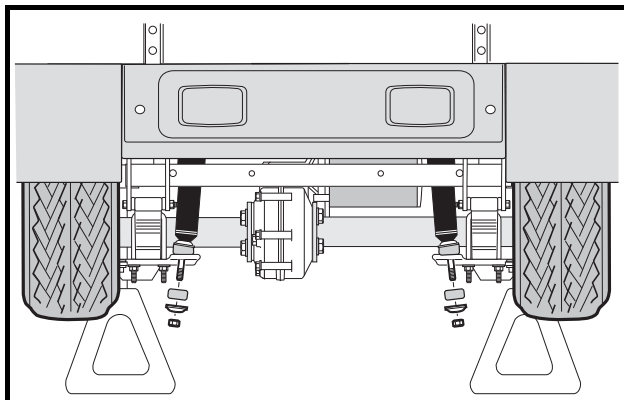
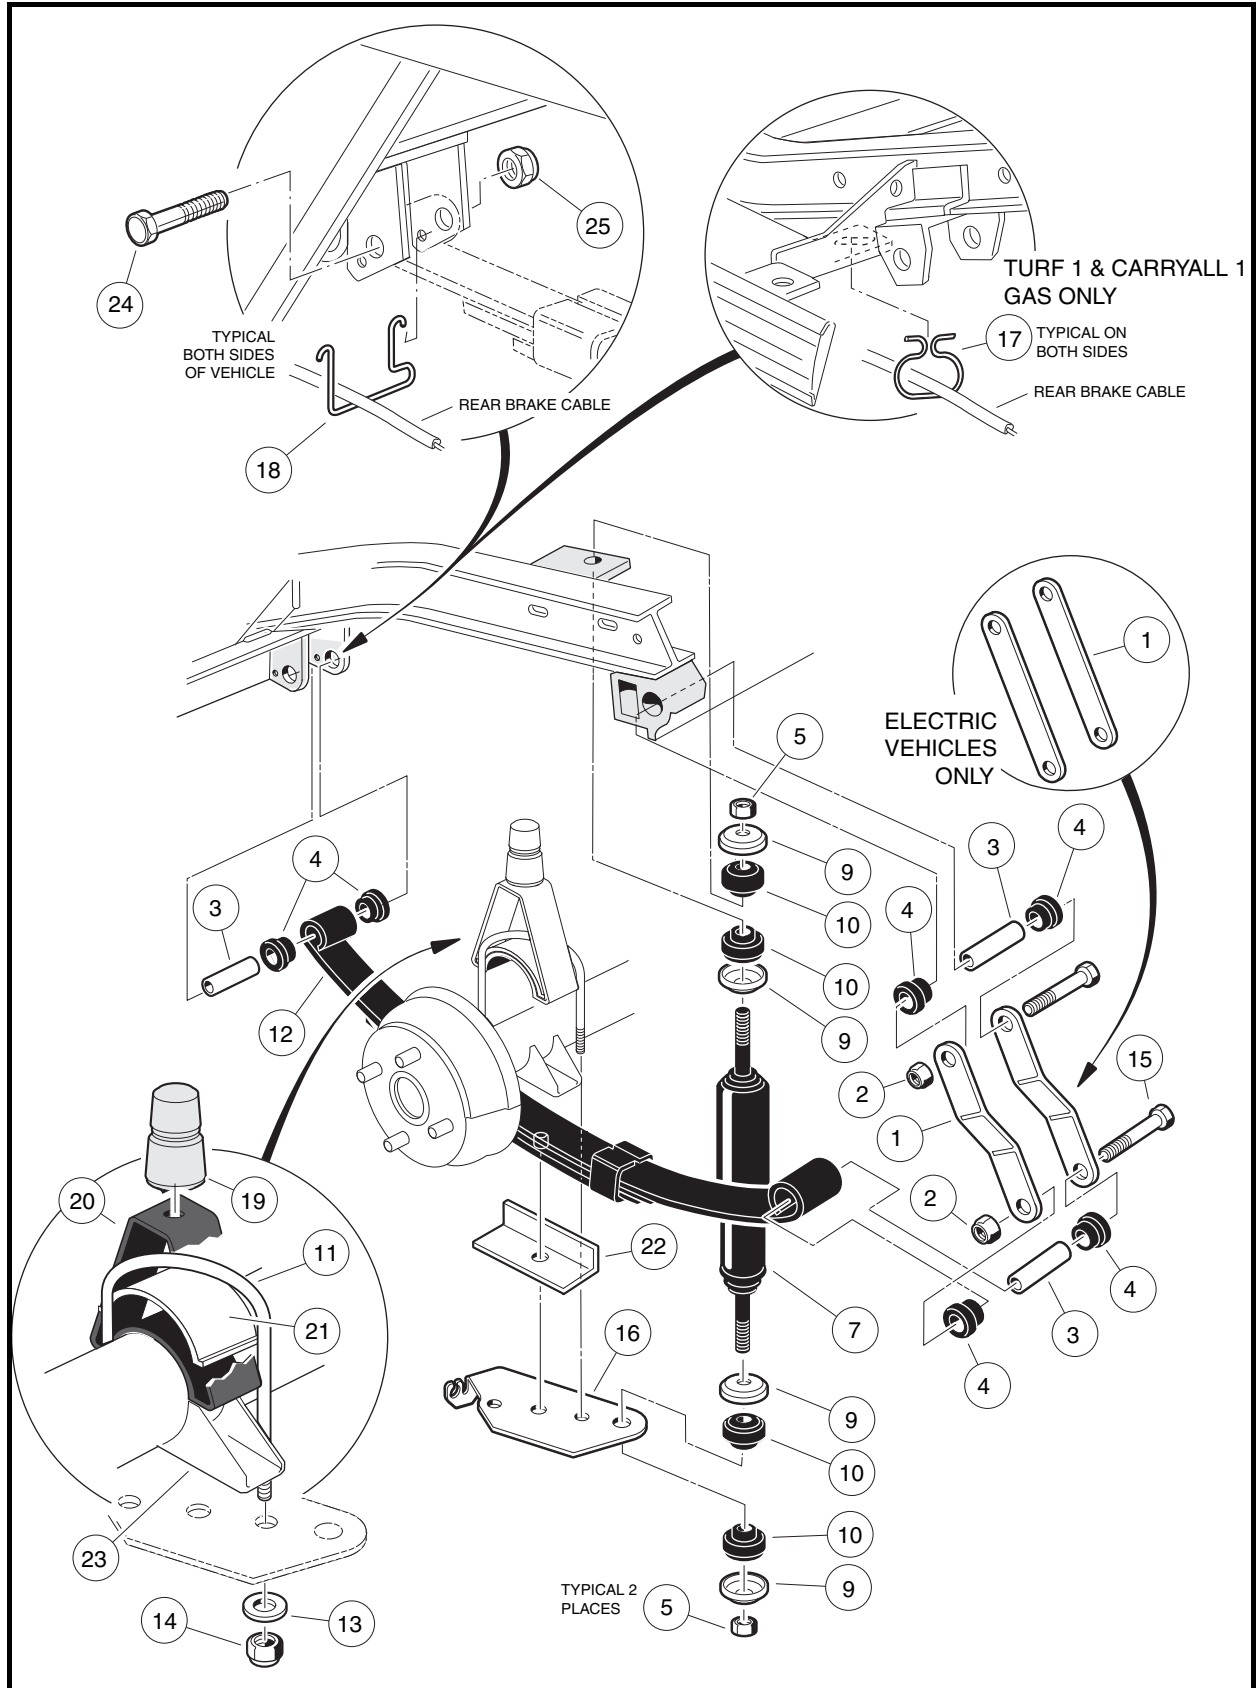
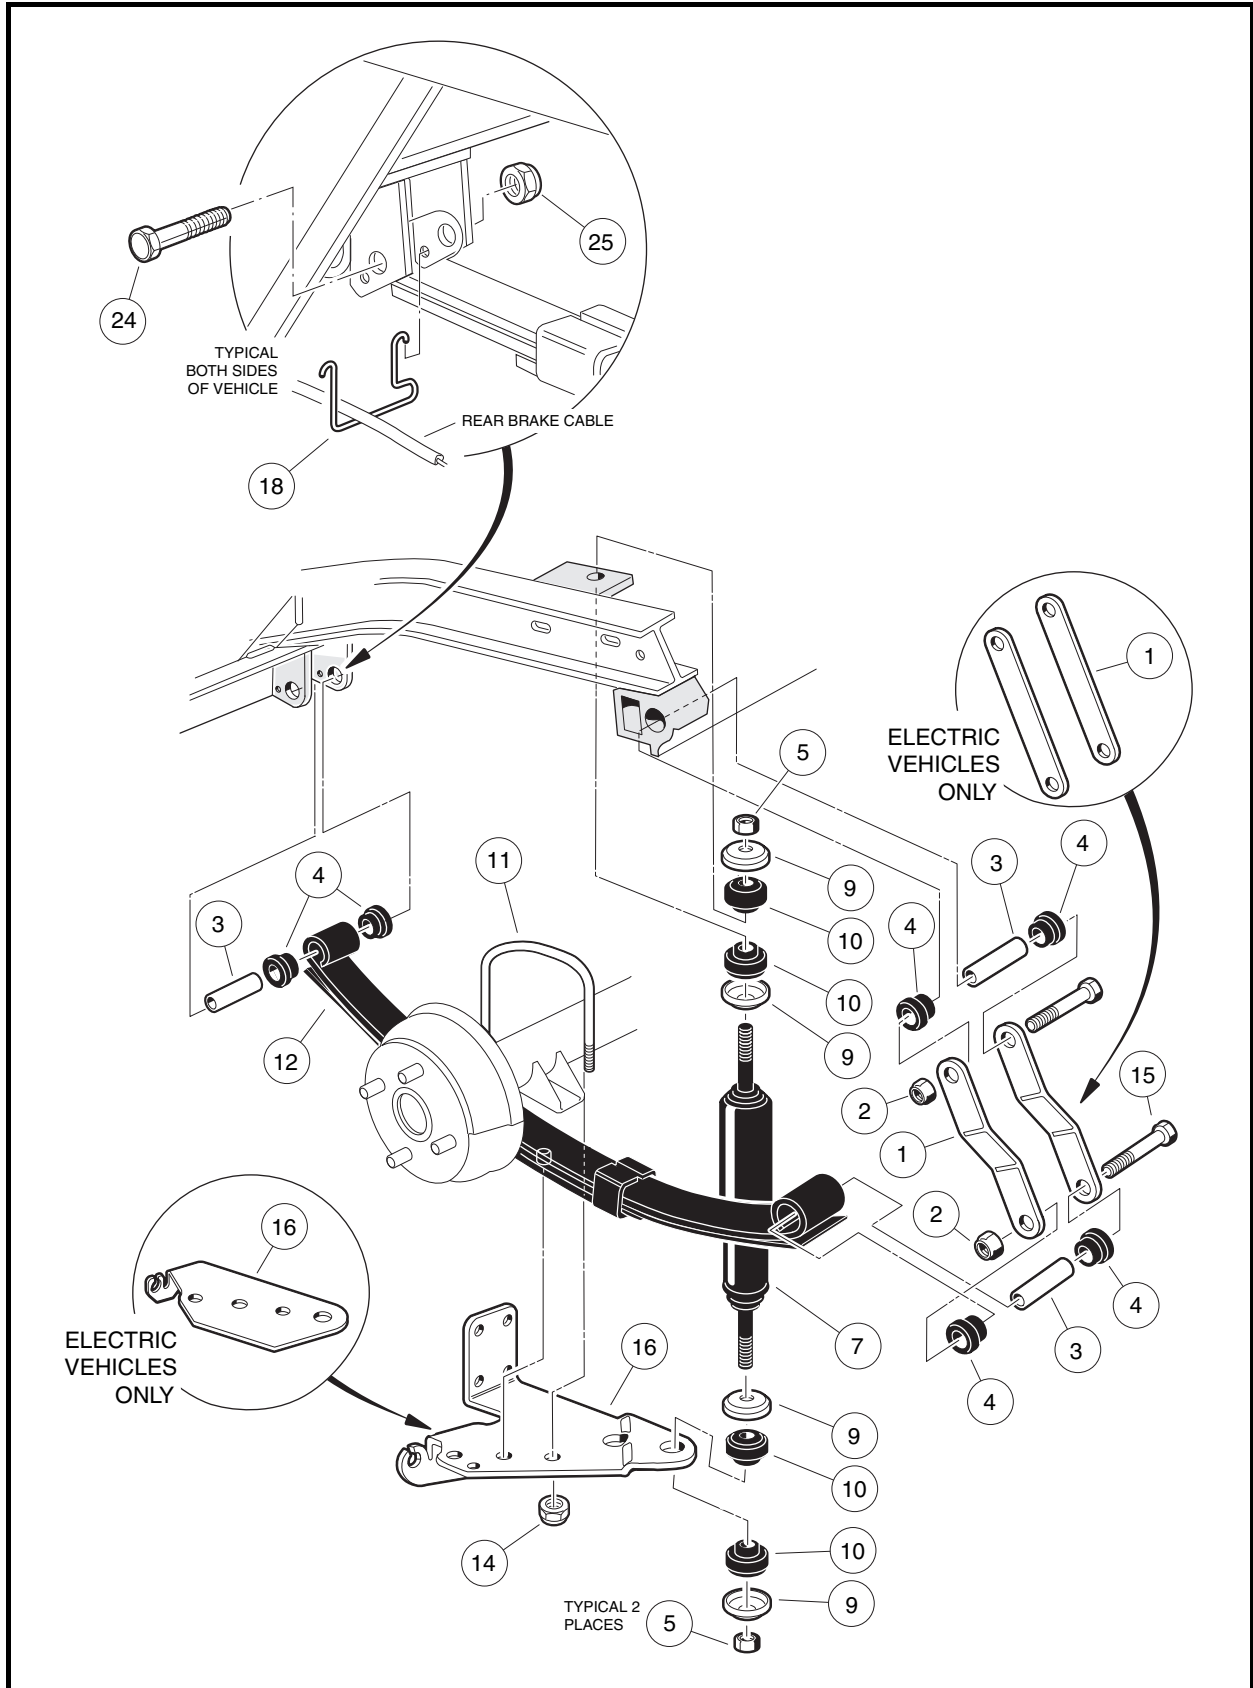

Figure 9-1 Shock Absorber Removal
Figure 9-3 Rear Suspension – Turf 1 and Carryall 1 Vehicles
Figure 9-4 Rear Suspension – All Turf and Carryall Vehicles Except Turf 1 and Carryall 1
1. Check shock absorbers (7) for damage and fluid leakage around the lower housing of the shock absorber body. Replace damaged or leaking shock absorbers (**Figure 9-3, Page 9-4 or Figure 9-4, Page 9-5**).
2. To remove a shock absorber (7), remove the nut (5), cup washer (9), and rubber bushing (10) from the upper shock absorber stem.
3. Remove lower mounting hardware (5, 9 and 10) on shock absorber lower mount (**Figure 9-3, Page 9-4 or Figure 9-4, Page 9-5**). See also **Figure 9-1, Page 9-1**.
2. On the upper shock absorber mount, tighten nut (5) until rubber bushing (10) expands to size of cup washer (9) (**Figure 9-3, Page 9-4 or Figure 9-4, Page 9-5**).
3. On the lower shock absorber mount, install mounting hardware. Tighten the nut (5) until the rubber bushing (10) expands to the same diameter as the cup washer.
NOTE: Turf 1 and Carryall 1 vehicles are equipped with jounce bumpers (**Figure 9-3, Page 9-4**).
5. Remove lower nut (5), cup washer (9), and rubber bushing (10) from shock absorber (7) (**Figure 9-3, Page 9-4 or Figure 9-4, Page 9-5**).
- 6.1. Remove the lock nuts (14) and flat washers (13) (if present) attaching the U-bolt (11) to the shock mount bracket (16). Remove jounce bumper mount (20) and spacer (21) (**Figure 9-3, Page 9-4**).
- 6.2. Allow shock mount bracket (16) to rotate downward and remove spring retainer (22). Do not disconnect brake cable from bracket (**Figure 9-3, Page 9-4**).
7. **All Turf and Carryall vehicles except Turf 1 and Carryall 1:** Remove the lock nuts (14) attaching the U-bolt (11) to the shock mount bracket (16). Do not disconnect brake cable from bracket (**Figure 9-4, Page 9-5**).
8. Raise axle with floor jack until axle saddle (23) is 1 inch (2.5 cm) above spring (**Figure 9-3, Page 9-4**).
9. Remove bolt (15) and lock nut (2) attaching the leaf spring (12) to the rear shackle (1) (**Figure 9-3, Page 9-4 or Figure 9-4, Page 9-5**).
10. Allow rear of leaf spring (12) to rest on the ground and remove the bolt (24) and lock nut (25) attaching the front of the spring to the vehicle frame (**Figure 9-3, Page 9-4 or Figure 9-4, Page 9-5**). Remove spring from vehicle.
11. Inspect the rubber bushings (4) and steel sleeves (3) in the spring eyes and replace them if they are worn or damaged (**Figure 9-3, Page 9-4 or Figure 9-4, Page 9-5**).
1. Install rubber bushings (4) and steel sleeves (3) into leaf spring eyes if bushings were removed (**Figure 9-3, Page 9-4 or Figure 9-4, Page 9-5**).
2. Place front of leaf spring (12) into vehicle frame and insert bolt (24) through frame and leaf spring eye. Install lock nut (25) and tighten to 15 ft-lb (20.3 N·m).
3. Align the other end of leaf spring with the holes in the spring shackles (1). Insert bolt (15) through leaf spring eye and shackles. Install lock nut (2) and tighten to 15 ft-lb (20.3 N·m). Lower transaxle onto leaf spring (12). **See following CAUTION.**
- When placing transaxle on spring, be sure to position locating bolt on the spring in the locating hole in the transaxle saddle (23) (**Figure 9-3, Page 9-4**).
- 4.1. Install spring retainer (22) and shock mount bracket (16) onto locating bolt at bottom center of leaf-spring (**Figure 9-3, Page 9-4**). **See preceding CAUTION.**
- 4.2. Position jounce bumper mount (20) with spacer (21) onto axle tube. Install U-bolt (11), flat washers (13) (if present), and lock nuts (14). Tighten U-bolt to 25 ft-lb (34 N·m) (**Figure 9-3, Page 9-4**).
5. All Turf and Carryall vehicles except Turf 1 and Carryall 1: Install shock mount bracket (16) onto locating bolt at bottom center of leaf-spring (**Figure 9-4, Page 9-5**). **See following NOTE.**
- 5.1. Install U-bolt (11) and lock nuts (14). Tighten U-bolt to 25 ft-lb (34 N·m) (**Figure 9-4, Page 9-5**).
1. Grip jounce bumper (19) and pull from bumper mount (20) (**Figure 9-3, Page 9-4**).
1. Insert jounce bumper (19) into bumper mount (20) (**Figure 9-3, Page 9-4**). Make sure the entire circumference of bumper is seated firmly in mounting hole.